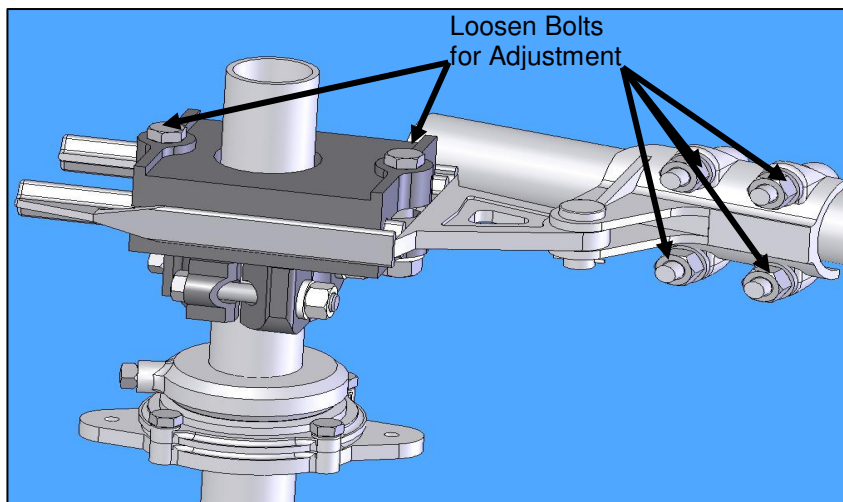

Figure 18: Adjustable Arm Assembly
- 6.4.3.5. Lengthen the adjustable radius arm approximately $\frac{1}{4}$ -inch. Allow the pipe clevis to reposition itself the same $\frac{1}{4}$ inch. Refer to **Figure 18**.
- 6.4.4.5. Shorten the adjustable radius arm approximately $\frac{1}{4}$ -inch. Allow the pipe clevis to reposition itself the same $\frac{1}{4}$ inch. Refer to **Figure 18**.